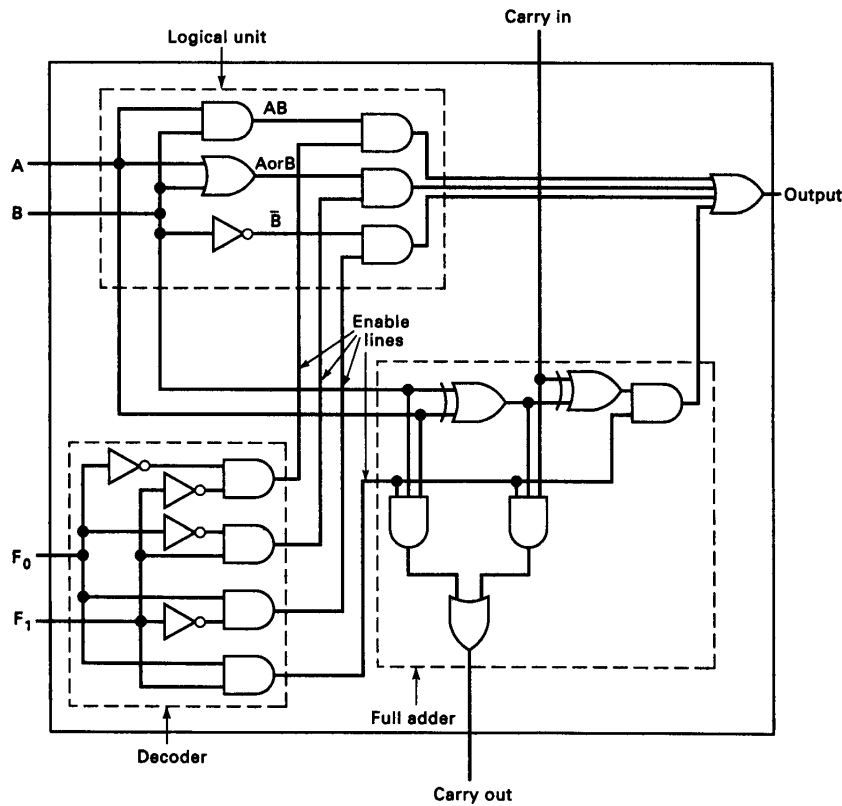

Figure 1: 1-bit ALU
- (1) 16 bits;
- (2) 32 bits;
- (3) 48 bits;
- (4) 64 bits;
8. Redesign the 1-bit ALU in Figure 1 below so that the functions performed, as specified by the 2-bit control inputs F_1F_0 are those shown in the following table: